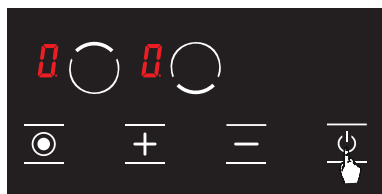

Figure 5
1.  Turn the stove on by pressing the button. (See Fig. 5)